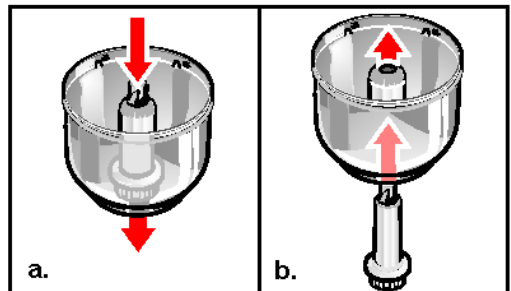

Figure 4.
clockwise with a slight downward pressure until bowl is firmly seated on the mono drive coupling, see figure 4.
- > The driveshaft should be removed from the mixing bowl, see figure 4